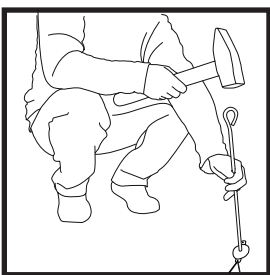

Fig. 3
6. Drive the spike into the ground to define the centre point of your tent (Fig. 3).